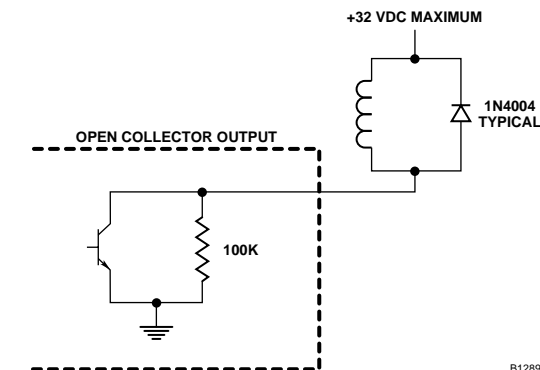

Figure 14—Open Collector Output with Inductive Load and Transient Suppression Device
Connections to open collector transistor outputs are made at terminals 10, 12, 14, and 16. Terminals 9, 11, 13, and 15 are not used. See Figure 14 for an example of a typical connection to an open collector transistor output.
*External equipment that can generate transients when switching (such as relays) **must have a transient suppression device** (diode) properly connected across the coil at the time of installation. This will safeguard the output transistors of the controller against possible damage. Figure 14 illustrates an inductive load with a diode used for transient suppression.*